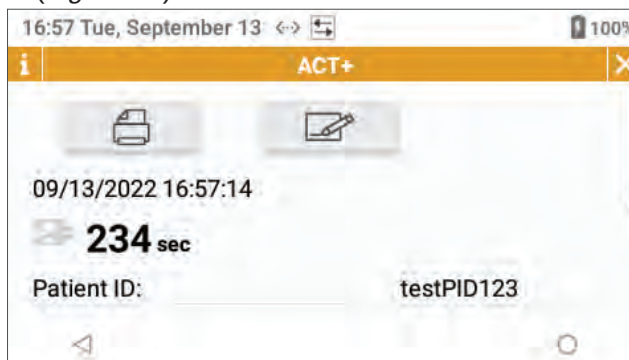

Figure 50: Patient Test Result Details
- **View details of the test result** – Select **Result Details** (Result Details) and detailed information about the test result is displayed (Figure 50).